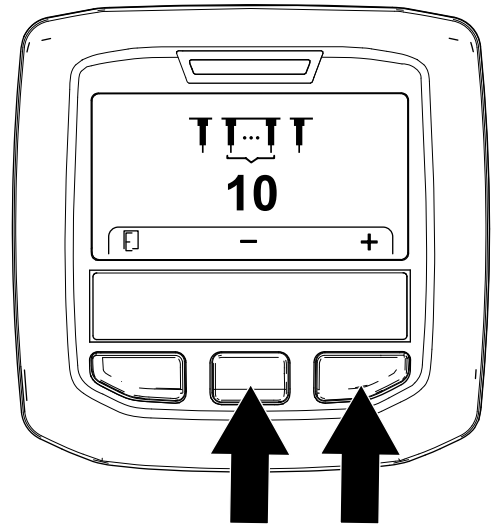

Figure 62
5. Adjust the tine quantity (Figure 62) as follows: